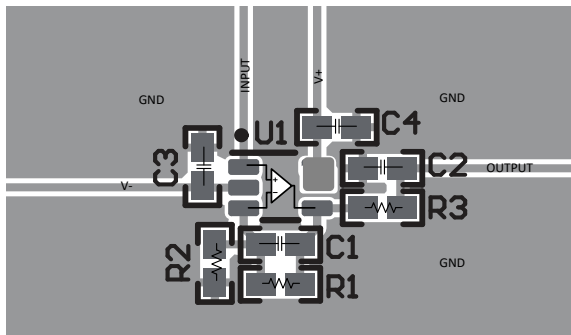
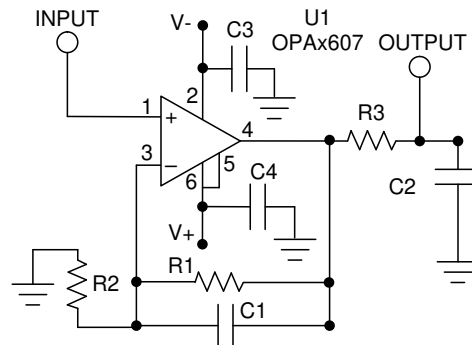

Figure 11-1. Operational Amplifier Board Layout for a Noninverting Configuration
Figure 11-2. Layout Example Schematic
- Place the external components as close to the device as possible. Keeping R_F and R_G close to the inverting input minimizes parasitic capacitance; see Figure 11-1 and Figure 11-2.